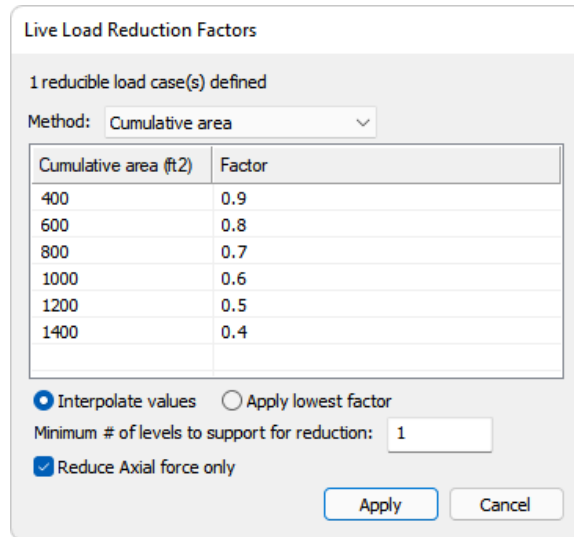

FIGURE 14-4
- Enter the values as shown in **FIGURE 14-4**.